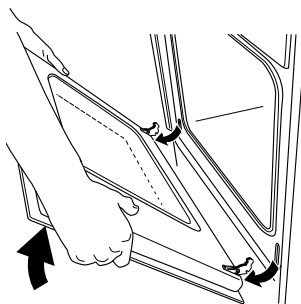

Fig. 3
4. handle the door by its left- and right-hand sides, then slowly turn it towards the oven until it is half-closed (Fig. 3);
5. gently pull the oven door off its site (Fig. 3);